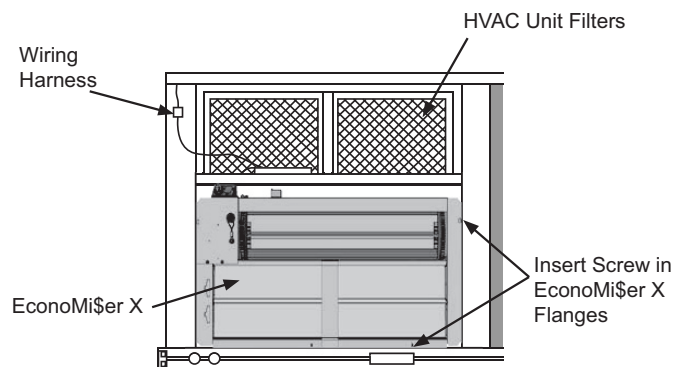

Fig. 4 — EconoMi\$er X Installed on HVAC Unit (CRECOMZR076A00 Shown)
4. Slide the EconoMi\$er X assembly into the rooftop unit. (See Fig. 4.)
5. Ensure EconoMi\$er X assembly is square. Screw the EconoMi\$er X system to the unit along both side flanges and bottom flange. (See Fig. 4.)